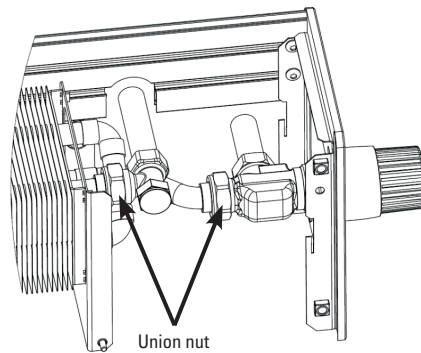

FIG. 5: Close-up view of the connection between the valves and the heat exchanger (the heat exchanger design differs according to the model)
- Connect the valves with the heat exchanger (pictured in detail on Fig. 5).